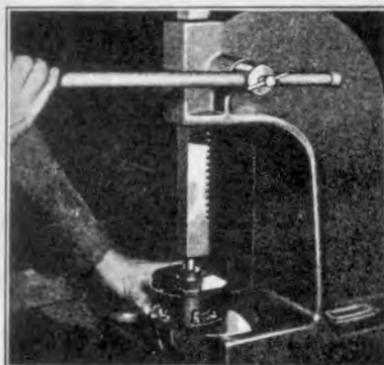

Fig. 493
- 964 Install a new shaft bushing into brush and bracket. When pressing in a new shaft bushing it is absolutely essential that the bushing be pressed in squarely. A guide plate can be used satisfactorily for this purpose (See Fig. 493).